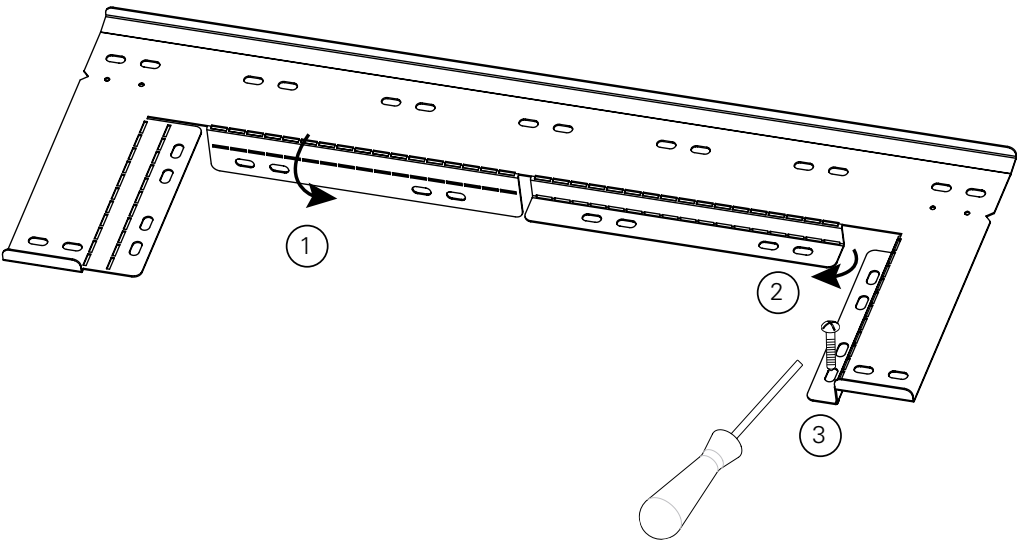

Fig. 6: Bending the wall bracket
1. Bend the wall bracket acc. to Fig 6. The holes in the bent-down part are used to fasten the wall bracket to the wall.